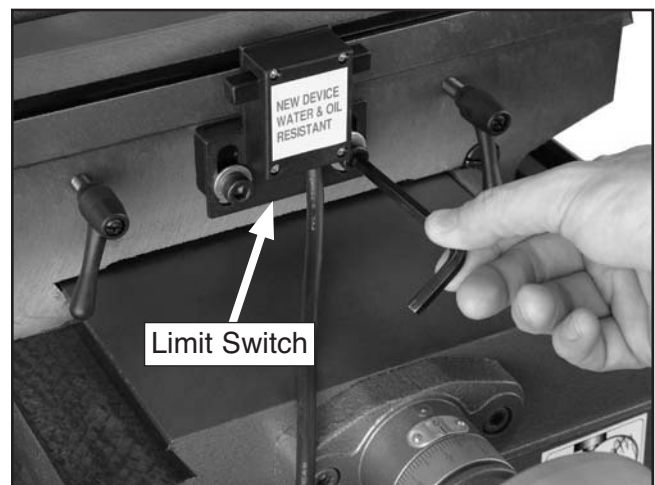

Figure 17. Limit switch.
10. Mount the switch to the switch bracket with the cap screws provided. When the switch is depressed, the power feed automatically turns **OFF** and table movement stops (**Figure 17**).